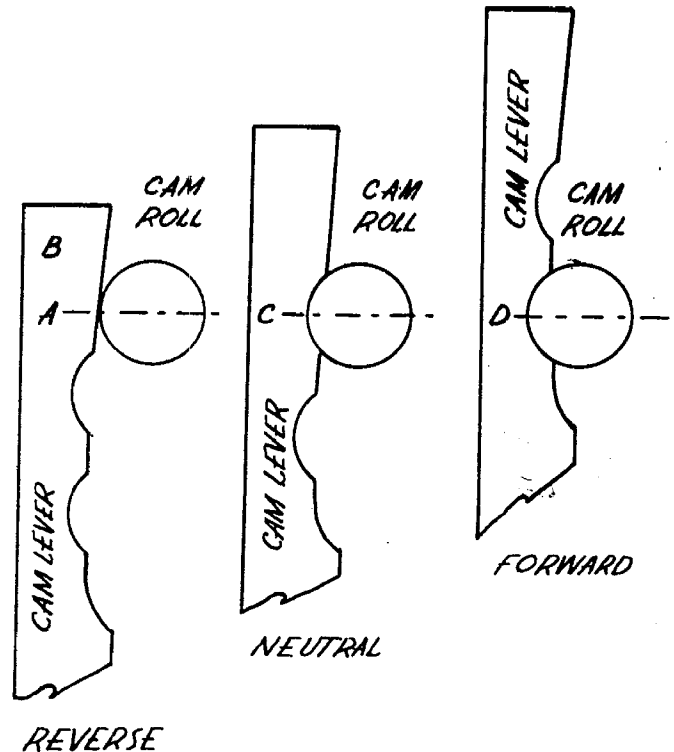

Fig.72 Reverse Gear - Cam Adjustment - Joes Model
(3) Pull operating lever toward reverse position until cam roll rests on cam at point (A), Fig. 72.
(4) Tighten adjusting nut until drum will not revolve with the lever in reverse position and the engine at full power.
Do not adjust so tightly that the cam roll cannot ride out of the notch at point (C), Fig. 72.